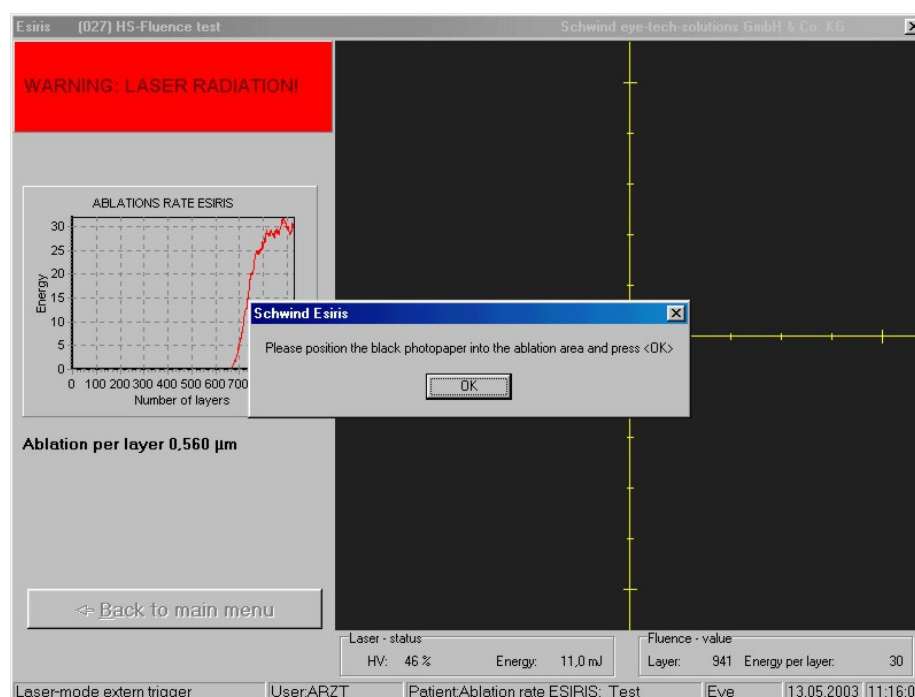

Figure 33: Start of drift test
- (2) Justify the photo paper. Only the black photo paper should be seen on the live-photo on the screen. Afterwards adjust the ablation height by using the positioning lasers.
- (3) Confirm the message **"Please put the photo paper in the focus point and press OK"**, see Figure 33: Start of drift test. The Drift-Offset-Test will start.